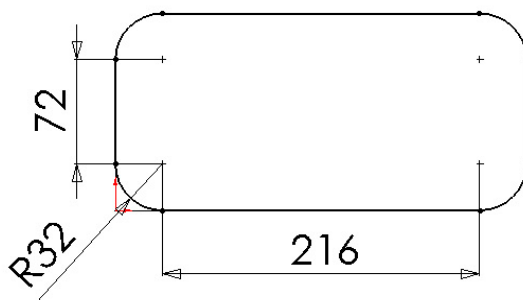

Figure 3 Base sketch and dimensions
14. Select **Dimension**  on the Sketch Relation toolbar, and dimension the sketch as shown in Figure 3. To change the fillet radius to **32 mm**, double click on fillet dimension, **Modify** dimension window will open, type **32** and press Enter.